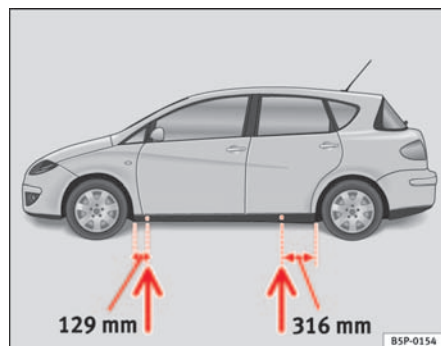

Fig. 167 The jacking points
- Locate the jacking point under the door sill closest to the wheel being changed ⇒ fig. 167.
Recesses at the front and rear of the door sills mark the jacking points ⇒ fig. 167. A position has been made for each wheel. Do not fit the jack anywhere else.